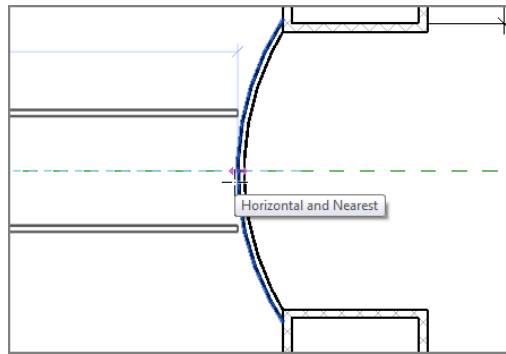

FIGURE 2.35: Completing the main corridor. You'll still have to drag the walls together to join them.
9. Pick the intersection of the reference plane and the radial wall as the second point, as shown in Figure 2.35.